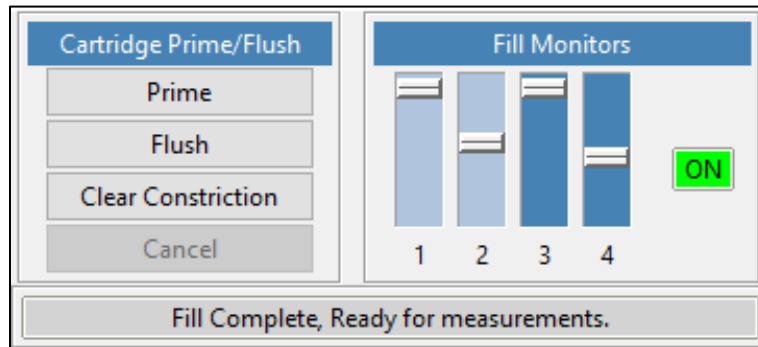

Figure 3. Fill monitors after successful priming of the cartridge.
- Priming is an automated process in the nCS1—Press the “Prime” button in the acquisition software to begin the routine (see Figure 3).
- After successful priming of the cartridge, the fill monitors should have approximately the pattern shown in Figure 3.
- If the raw data shows too many steps, or poor display of control particles, click on the “Clear Constriction” button (Figure 3), wait for completion, then reattempt acquisition.
- Flushing is an automated process in the nCS1—Press the “Flush” button in the acquisition software to begin the routine (see Figure 3)